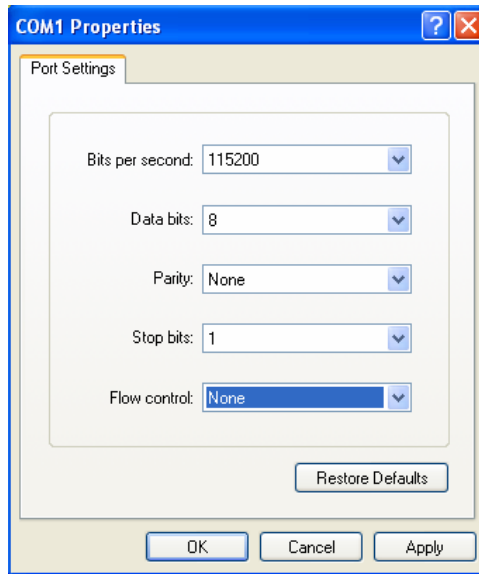

Fig 5
- 1) Input the name “hikvision”. And do the step 1 again. Then enter into fig 4. select COM1 and click “OK” to enter into fig 5.